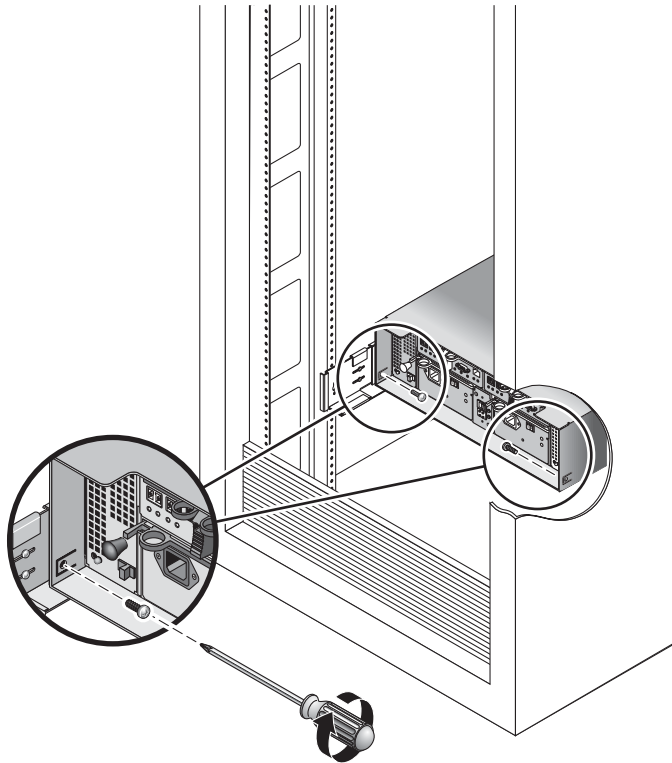

FIGURE 2-18 Securing the Enclosure to the Back of the Cabinet
6. At the back of the enclosure, install and tighten two 8-32 screws (one per side) to secure the back of the enclosure to the cabinet (FIGURE 2-18).